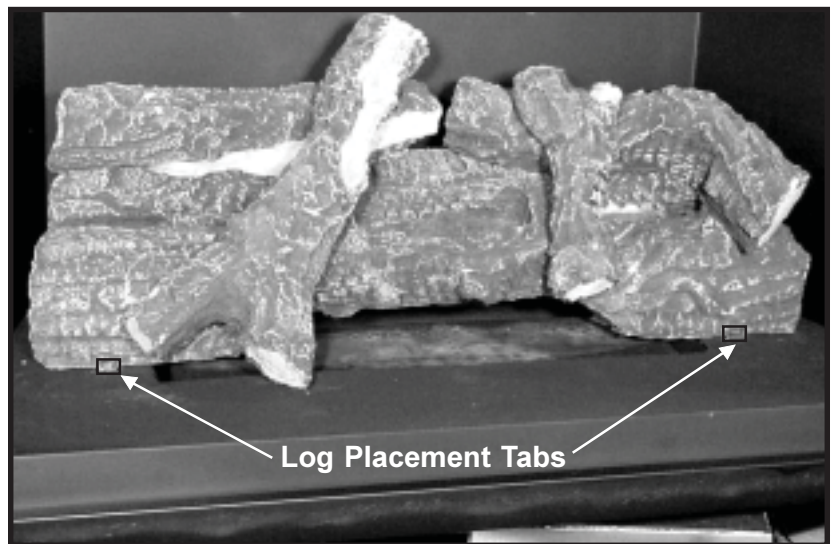

Figure 38
9. Carefully position the log set in place into the fireplace. Pull the log set forward until the log set contacts the log placement tabs. Center the log set in the firebox side to side (see Figure 38). (Grate removed for viewing.)